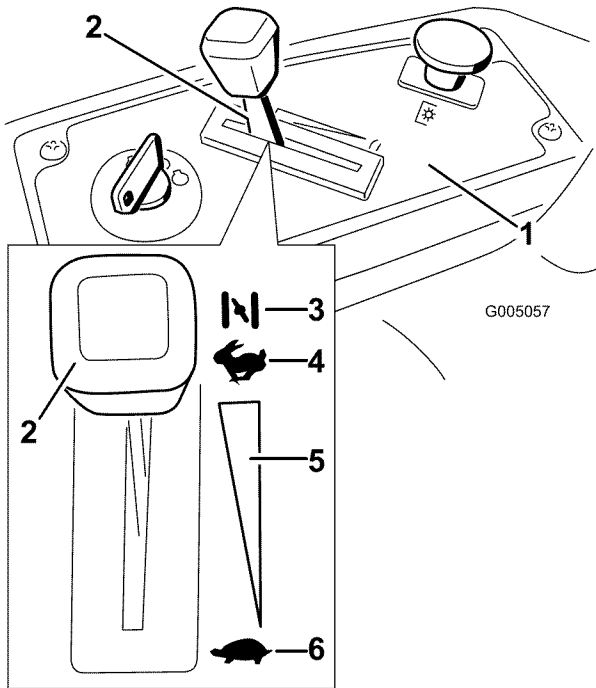

**Figure 10**
2. Disengage the blades by moving the blade control switch to Off (Figure 10).